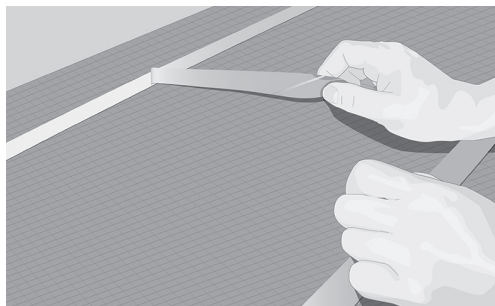

Fig. 6. Lay out double-sided tape and remove the backing
10. Fix the cable on the double-sided tape remove the liner as the cable layout proceeds (Fig. 6 and 7).